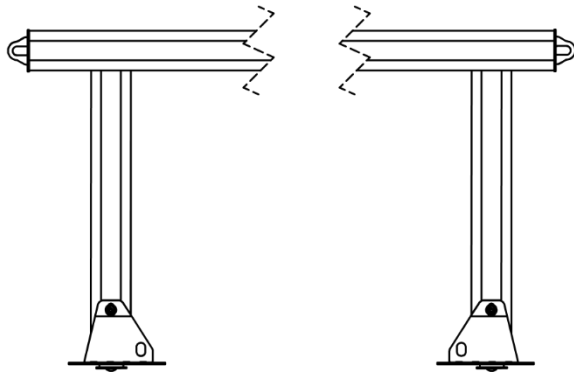
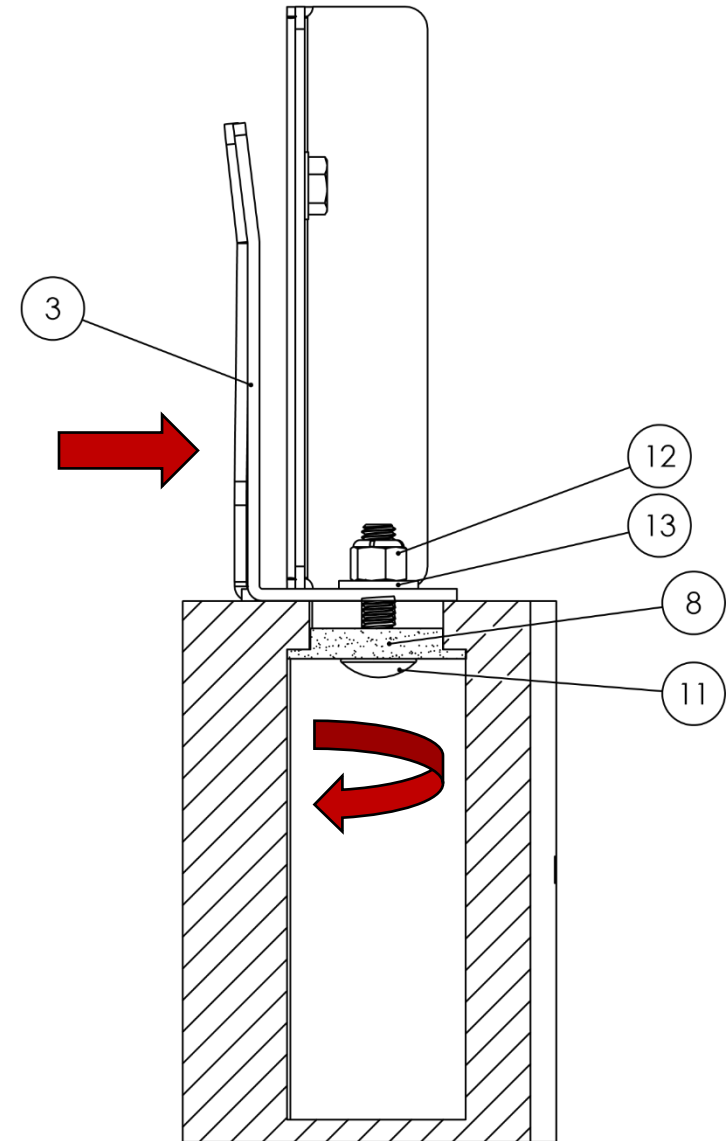

Figure 3
Figure 4
2. **Install the Rack Bases.** Examine the Bases (Item No. 3) and notice an oval shaped eyelet on its face. These eyelets should be positioned so that they face each other as shown in Figure 3. To install the base, place it on the truck's bedrail and position it so that the opening found on the bottom of the base is aligned with the bolt projecting up out of the stake pocket. As shown in Figure 4, slide the Base forward so that its bottom can be clasped between the Carriage Bolt (Item No. 11), the Metal Washer (Item No. 13) and the Lock Nut (Item No. 12). Once the Base has been pushed forward, use a wrench to tighten the assembly until the washer and lock nut are in contact with the bottom of the base. **DON'T forget to apply a little grease to the screws before tightening or it may be hard to remove the nuts later.**